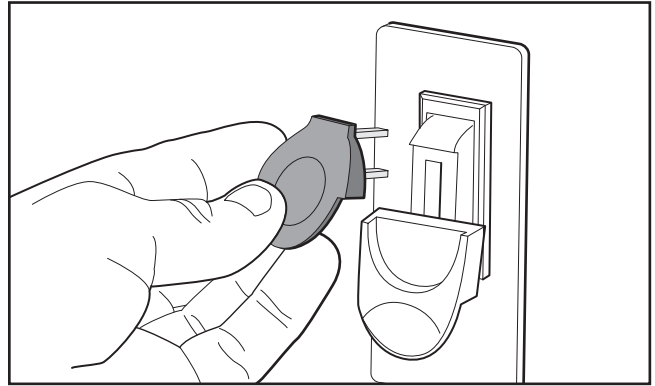

Figure 15. Removing switch disabling key from paddle switch.
4. Remove switch disabling key, as shown in **Figure 15**.